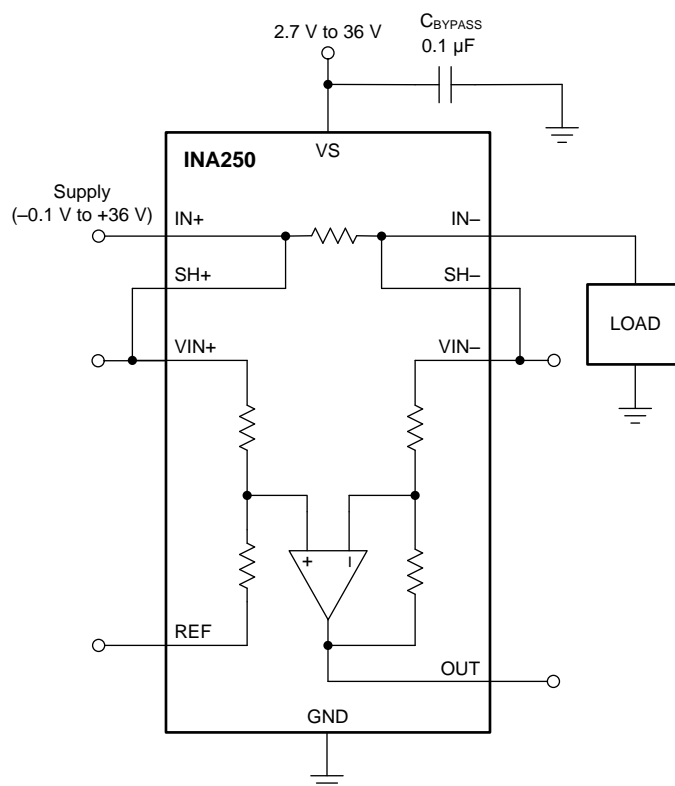

Figure 1. INA250 Test Board Block Diagram
A block diagram of the INA250 test board hardware is shown in Figure 1. The INA250 test board contains a 4-port screw terminal block to connect to the supply (VS), ground (GND), reference (REF) and output (OUT) pins of the INA250. There are ten test points located on the board to access the IN+, IN–, VIN+, VIN–, REF, OUT, VS, and GND pins of the device. Minimal support circuitry is included on the PCB and can be removed or bypassed as needed.